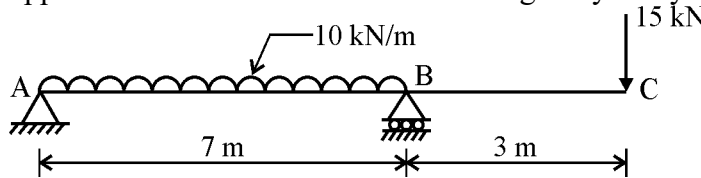

Fig. 3
- (e) Find support reactions for a beam shown in Fig. 3 by analytical method.